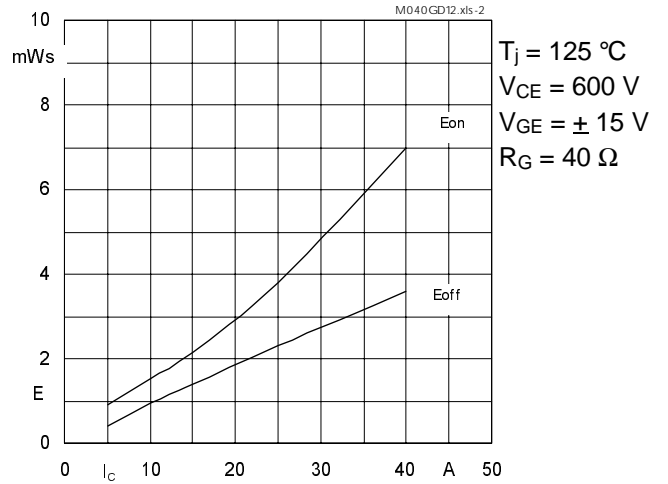

Fig. 2 Turn-on /-off energy  $= f(I_C)$
5) See fig. 2 + 3; RGoff = 40 Ω